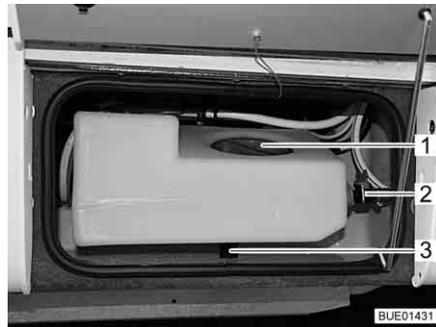
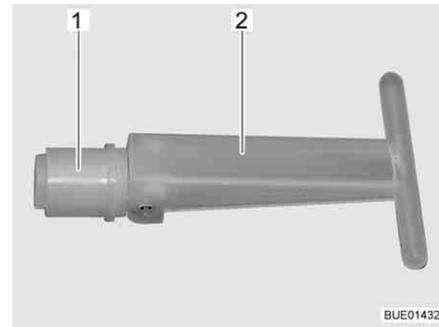

Fig. 229 Auxiliary water tank
Fig. 230 Stopper
When the emptying valve (Fig. 229,2) is open, the fill quantity of the auxiliary water tank is limited to approximately 30 litres; excess water will drain off. When the emptying valve is shut, the entire tank volume is available.
When the stopper (Fig. 230,1) is pulled in the inside of the auxiliary water tank, the water drains away via the drain (Fig. 229,3). The stopper can be accessed via the service opening (Fig. 229,1).
- Ensure that the stopper (Fig. 230,1) in the auxiliary water tank is shut (handle (Fig. 230,2) is folded out).
- Ensure that the emptying valve (Fig. 229,2) is shut.
- Open the service opening (Fig. 229,1) in the auxiliary water tank.
- Access the handle (Fig. 230,2) of the stopper (Fig. 230,1) via the service opening, turn the handle to the vertical position and remove the stopper.
- Open the emptying valve (Fig. 229,2) on the auxiliary water tank.